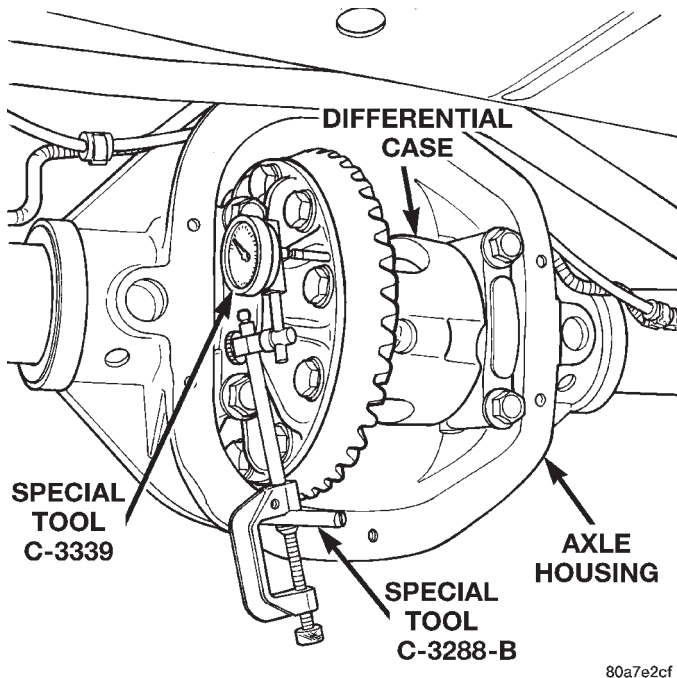

Fig. 68 Differential Side Play Measurement
- (8) Thread guide stud C-3288-B into rear cover bolt hole below ring gear (Fig. 68).
- (9) Attach a dial indicator C-3339 to Guide Stud C-3288-B. Position the dial indicator plunger on a flat surface between the ring gear bolt heads (Fig. 68).
(21) Position the dial indicator plunger on a flat surface between the ring gear bolt heads. (Fig. 68).